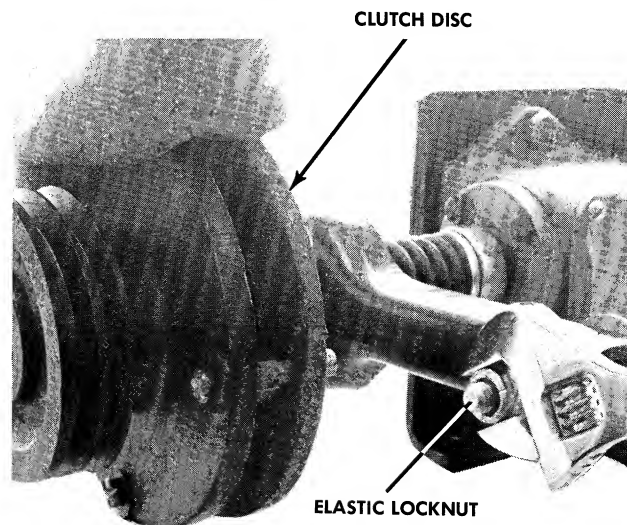
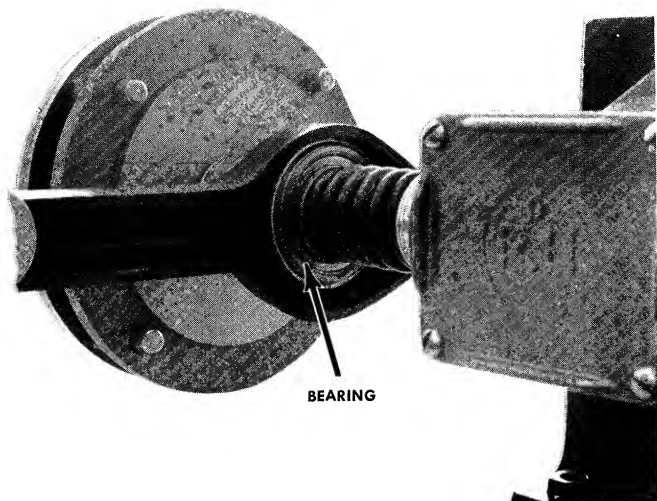

FIGURE 17. CLUTCH ADJUSTMENT
FIGURE 18. THROW OUT BEARING
- Step 2. Rotate the clutch disc by hand and tighten the elastic locknut (Figure 17) until the bearing stops rotating (Figure 18).